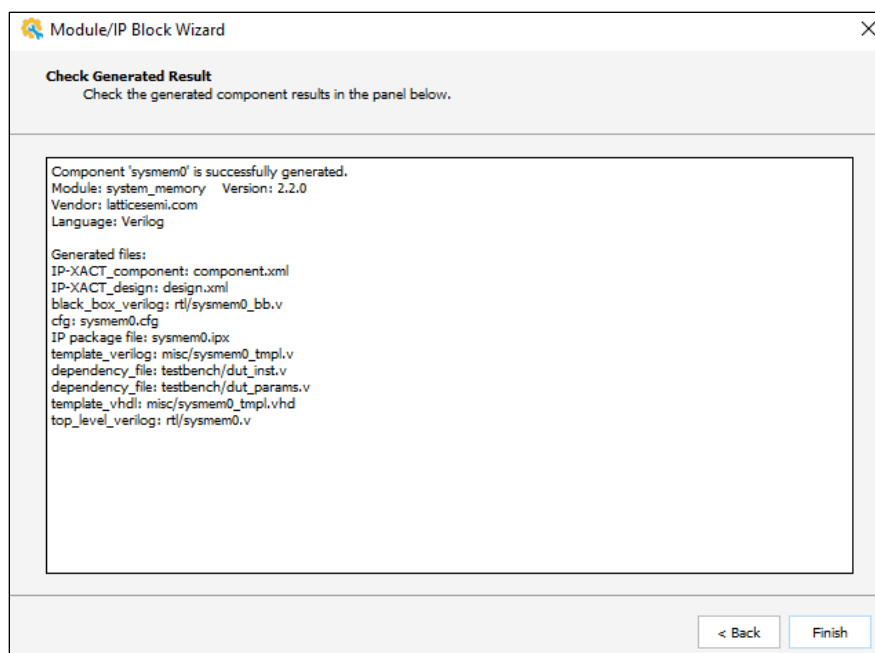

Figure 8.45. Click Finish
- Wait until the processing is complete and click **Finish** as shown in Figure 8.45.